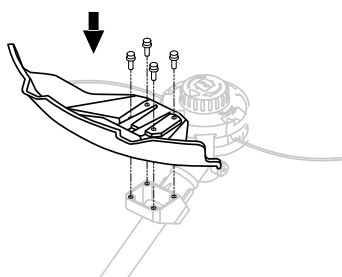

Fig. 2B
3. Hold the guard in place and screw the four bolts on with the washers (Fig. 2B). Ensure all four bolts are securely tightened.